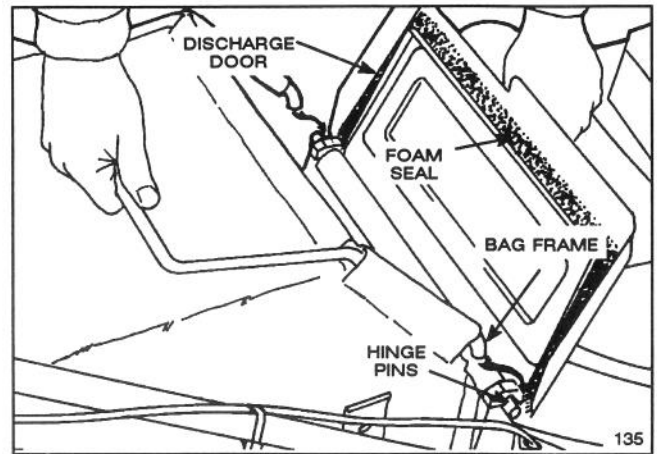

Figure 14
2. **INSTALLING BAG**—Raise discharge door and hook bag frame onto hinge pins (Fig. 14). Allow bag to rest on mower housing over discharge opening. Close door and make sure it seals around top of bag opening.